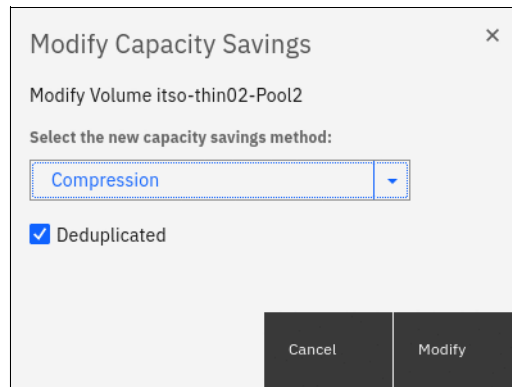

Figure 6-49 Enabling deduplication on a volume
3. For volumes that are configured in a DRP, it is possible to enable deduplication, as shown in Figure 6-49.